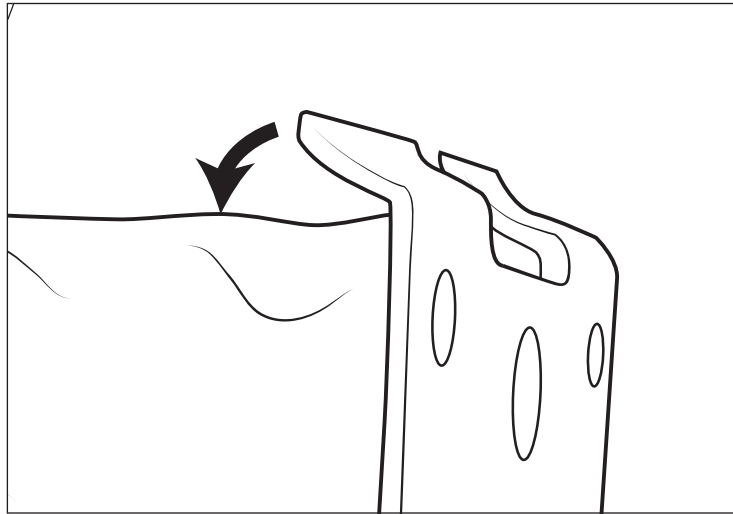

Figure 5
- Using a large hammer, flatten the top of the front mounting flange to be parallel with the frame rail (fig. 5).